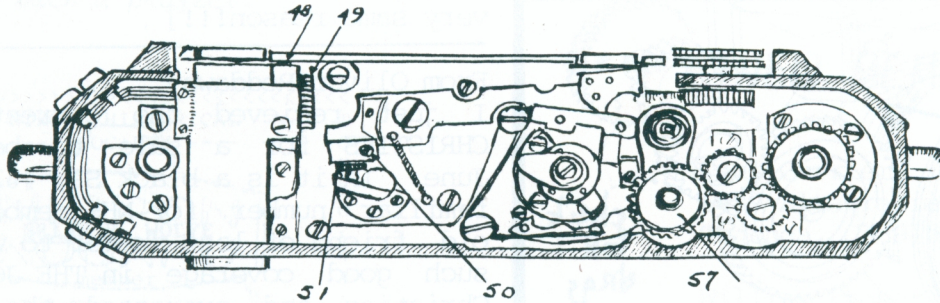

fig 4
2.Horizontal...(Fig. 2 & 4) Remove 2 screws (32) and lift off the front section of the 2 piece finder shoe. Beneath there is a port which gives access to a set-screw (50 Fig.4) and a knurled ball stop (51). Loosen the set-screw and adjust the stop by turning until coincidence is obtained on a distant object, the focus being set at infinity. Tighten the set-screw.
**Locate the small collar (39) which positions the release shaft bottom gear (38). The set-screw (36) tightens into a small dimple (30) in the release shaft (27). Loosen this set-screw.
**At the top of the sprocket above the upper teeth, there is a threaded pin (35). This pin sits in a groove (29) in the release shaft. The shaft is free to slide with the pin in place; otherwise the shutter would not release. The rotation of the sprocket during wind and rewind (when the sprocket rotates freely) imparts motion via the pin (35) to the release shaft and the shutter release button (31). The rotating release button gives a visible check that the film is passing back into the cassette.
**Remove this threaded pin (35). Keep it apart from the other screws.
13.The top plate can now be lifted off the body. Be careful to pick out the compression spring which sits on the splined wind gear (Fig.4, #57), the collar (39), the release shaft bottom gear (38), and the splined wind gear (57). The release shaft may be passed through the top plate and stored separately.